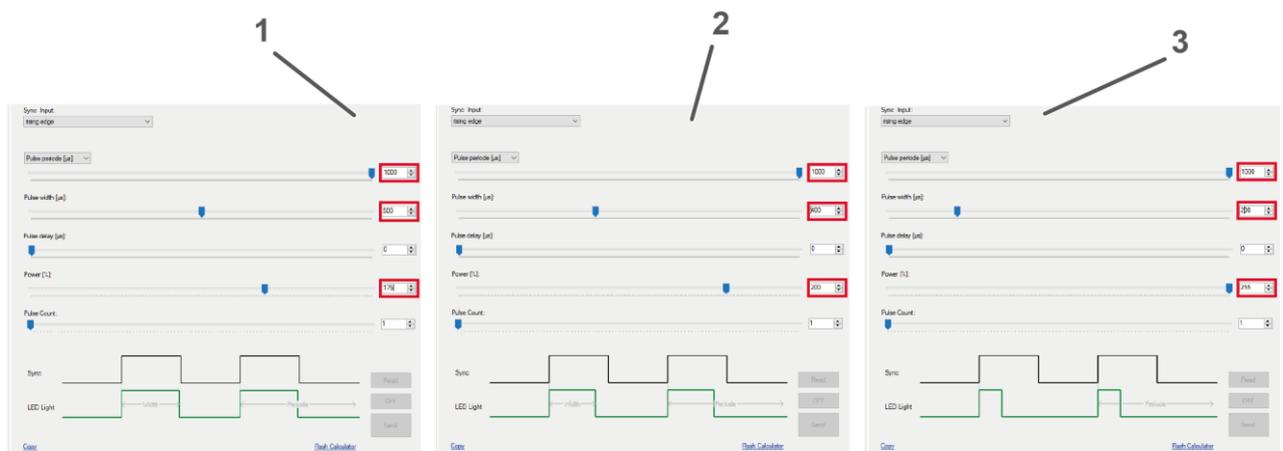

Figure 50: Settings of Pulse Width, Pulse Periode and Power
- Adjust Pulse width [μs] (Figure 50, Page 59).
- | The ratio of Pulse width [μs] to Puls periode [μs] must match the set intensity Power [%] (Figure 50, page 59).